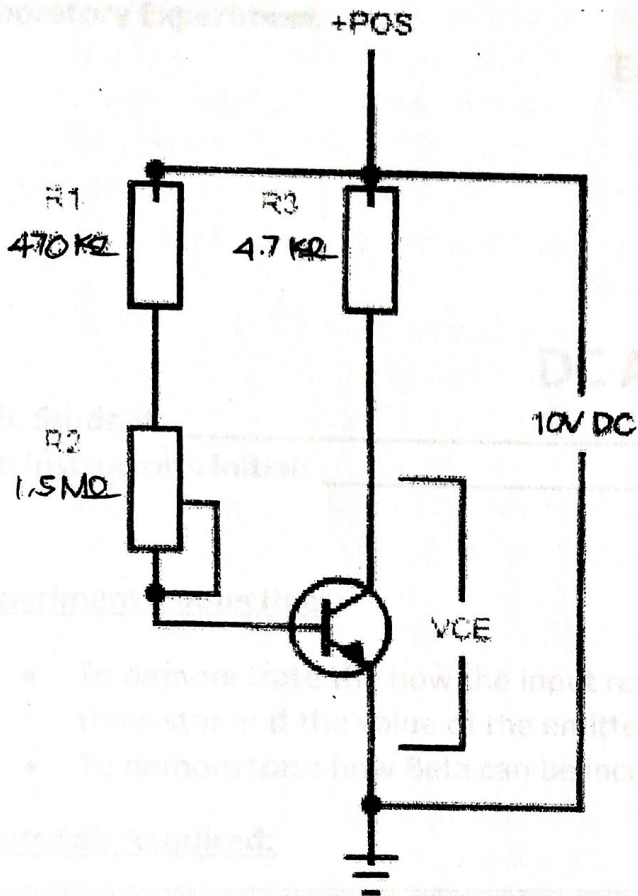

FIGURE 4-11
1. Construct the circuit in figure 4-11